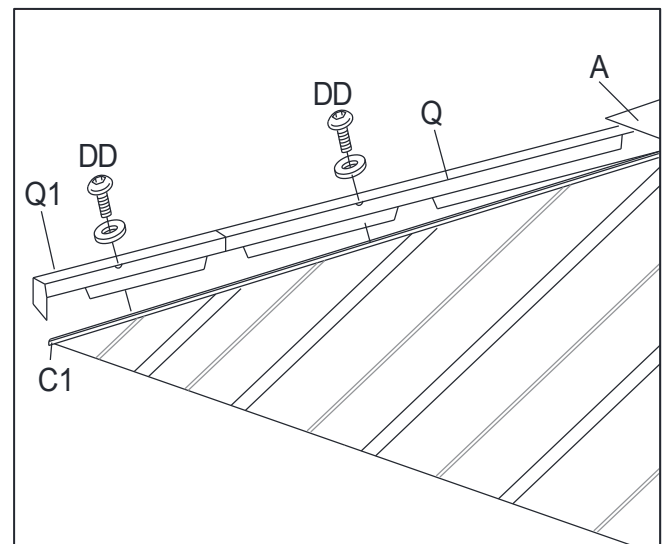

Fig.13.2
13. Put Top Panel Cover (Q) on the top of Long Top Bar (C) and then insert Top Panel Cover (Q) into the gap between Upper Central Connector (A) and Long Top Bar (C). Then attach Top Panel Cover(Q) to Long Top Bar (C/C1) with Bolt (DD). See Fig.13 (Fig.13.1——Fig.13.2).